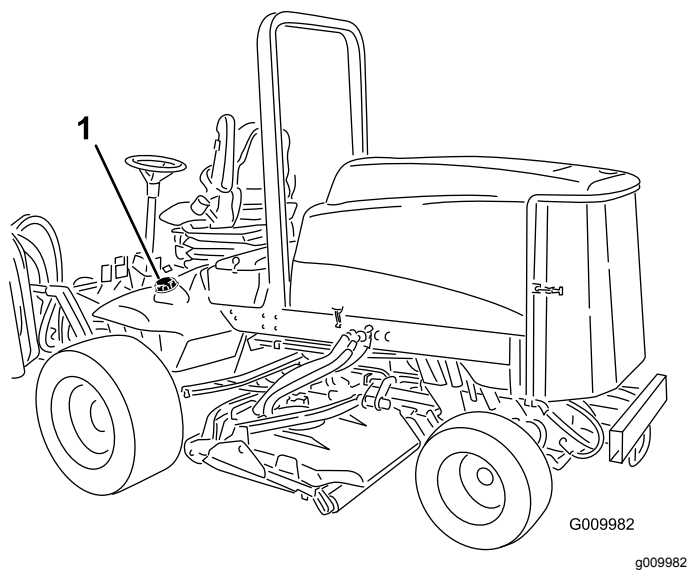

Figure 18
1. Remove the fuel tank cap (Figure 18).